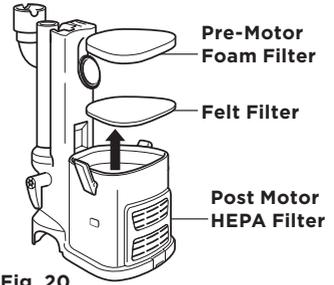

Fig. 20
- 2 Pull the 2 filters out from the top of the canister. **(Fig. 20)**